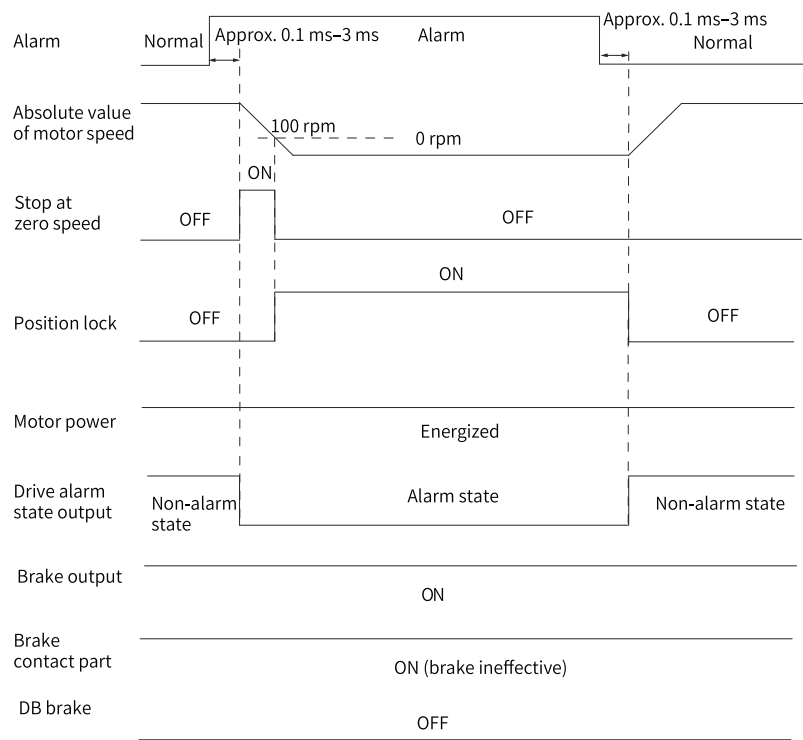

Figure 8-24 Sequence for alarms that cause stop
- When a No. 3 alarm occurs on the servo drive, such as E900.0 (DI emergency braking), E950.0 (Positive limit switch alarm), and E952.0 (Negative limit switch alarm), the servo drive stops according to “Figure 8-24 Sequence for alarms that cause stop” on page 234.